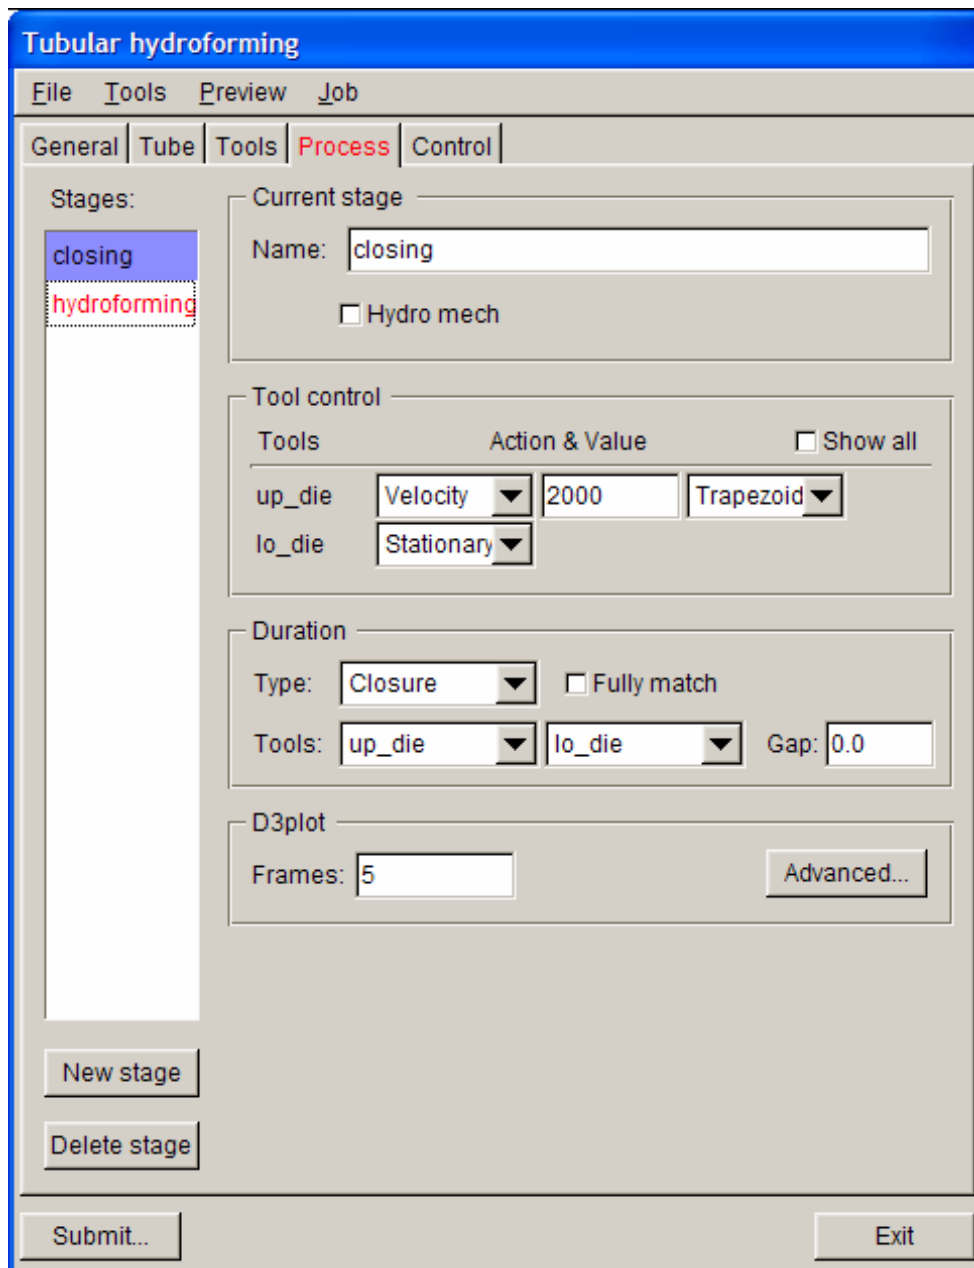

Figure 3.31 Closing process interface
1. Select **closing** process illustrated in Figure 3.31, following by clicking the **Delete stage** button in the process definition interface to remove the process.